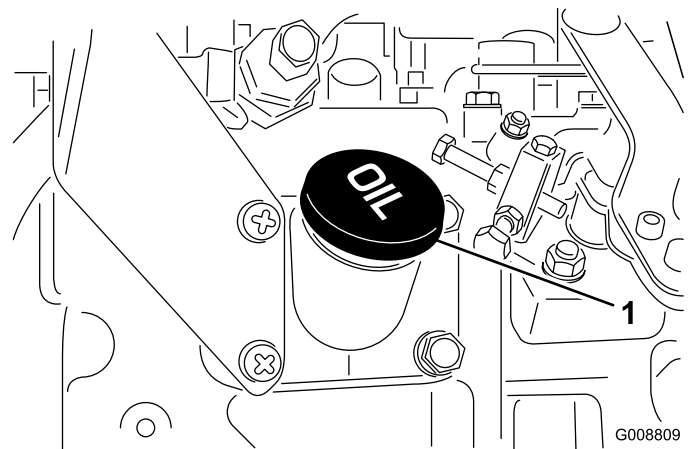

Figure 14
4. If the oil is below the safe range, remove the fill cap (Figure 14) and add oil until the level reaches the Full mark. **Do not overfill.**